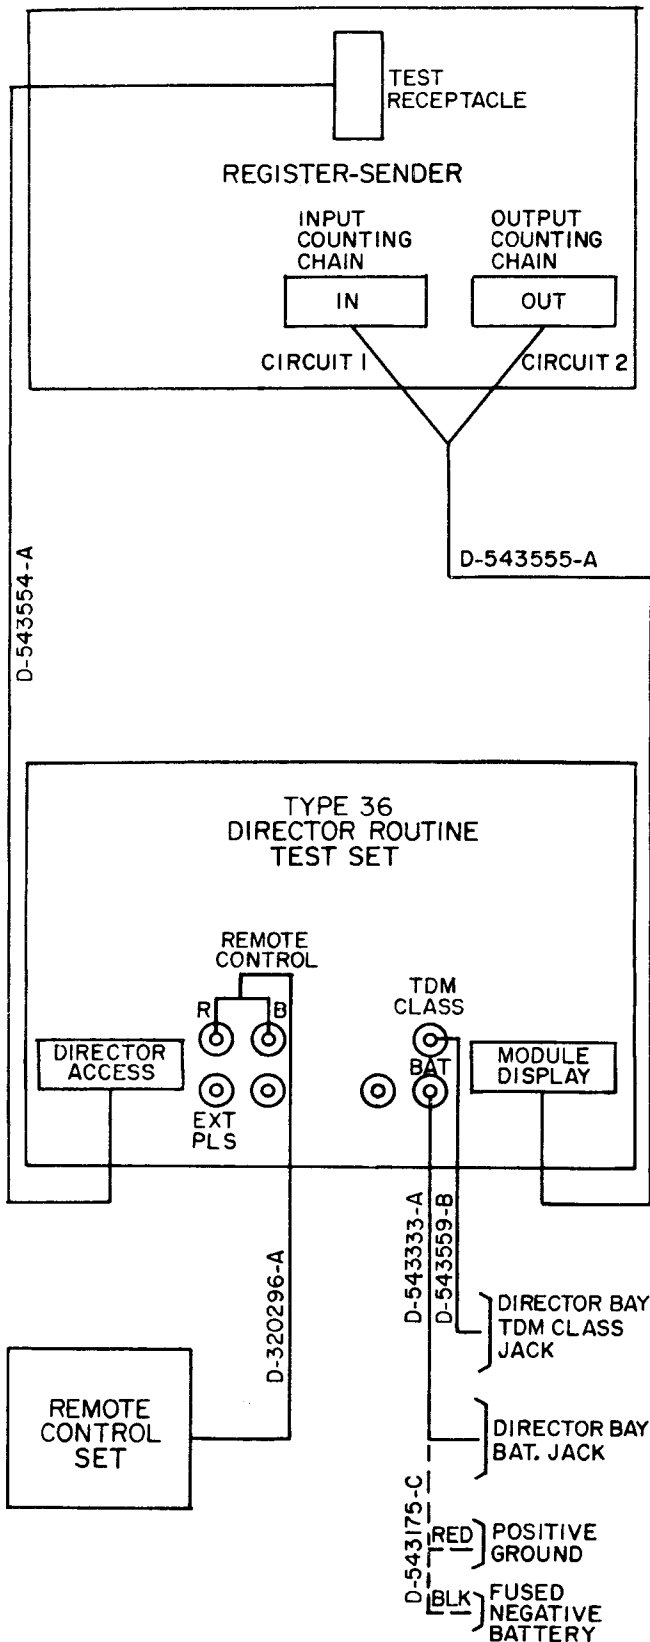

Figure 2. Type 36 Director Routine Test Set Connections.
case, connect the plug end to the BAT jack on the test set; then, connect the red clip lead to positive ground and the black clip lead to the load side of fused negative battery, in that order. See Figure 2.
- (3) If EC lead class marking is used, operate the CLASS-OF-SERVICE B/A/C key as required. Position B provides a 2000-ohm resistance ground mark; position A provides an absence-of-ground mark; and position C provides a direct ground mark.
- (4) If testing of other than 1400-ohm lines (e.g., 1700-ohm lines or lines with restricted service) is required, operate the TDM CLASS/% BRK key to the TDM CLASS position to provide the appropriate TDM class mark. (These class marks are assigned according to the requirements of the local exchange.) Also, connect the test set TDM CLASS jack to the TDM CLASS jack in the director bay, using class-of-service cord D-543559-B. See Figure 2.
the TDM CLASS/% BRK key to the TDM CLASS position and connect the TDM class jack to the TDM class jack in the director bay. See Figure 2.